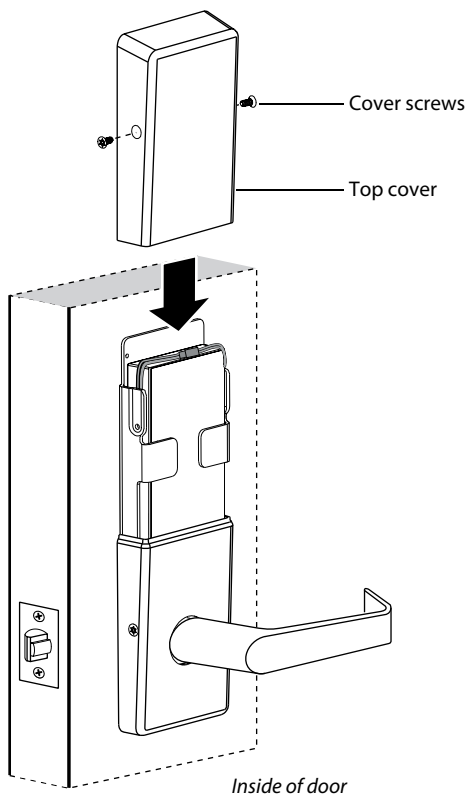

Figure 20 Installing the top cover
- 2 Use two cover screws to secure the cover to the side of the fire plate, as shown in Figure 20.